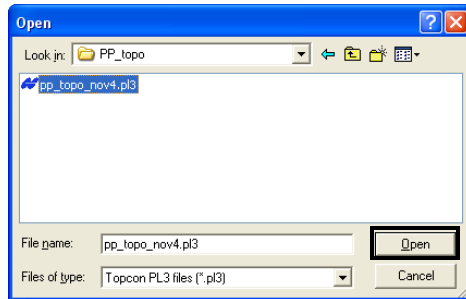

Figure 5-21. Open File to Compare With
2. On the **Open** dialog box, navigate to the location of the desired file, select the file type (either TIN, Plane, or RD3 alignment), and click **Open** (Figure 5-21).